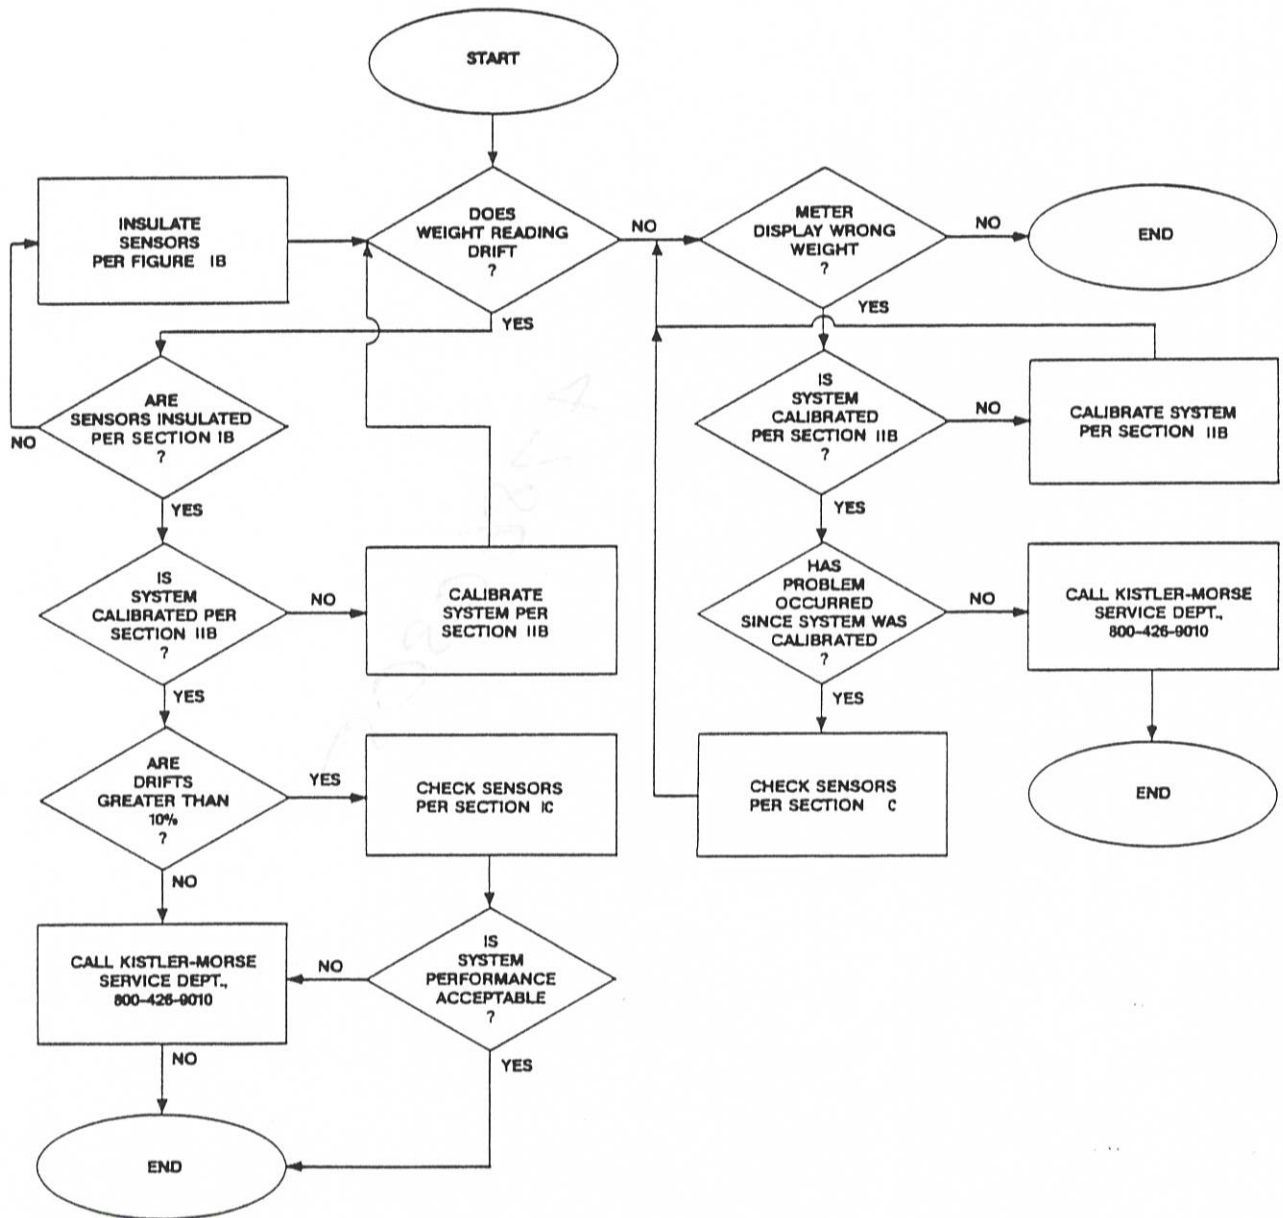

FIGURE 3
- Readout meter indicates drifting, refer to Figure 3 or
- Readout meter displays incorrect weight, refer to Figure 3.